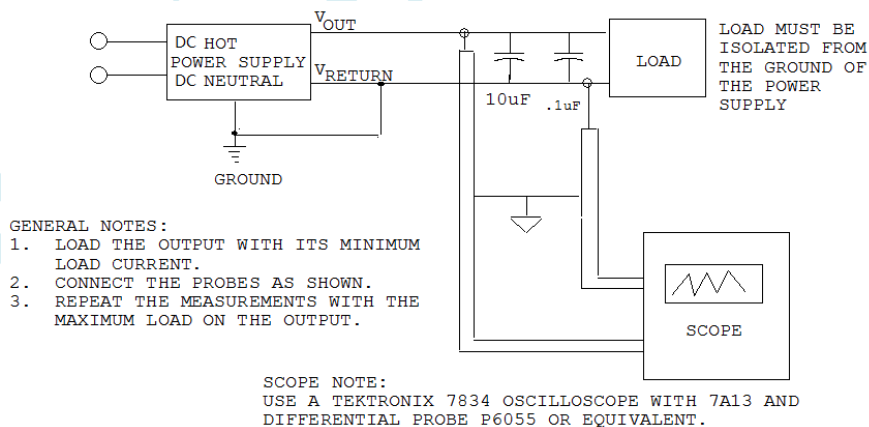

Figure 7. Differential Noise Test Setup
The test set-up shall be following *Figure 7*.
**NOTES:** Load must be isolated from the safety ground to *Figure 7*.